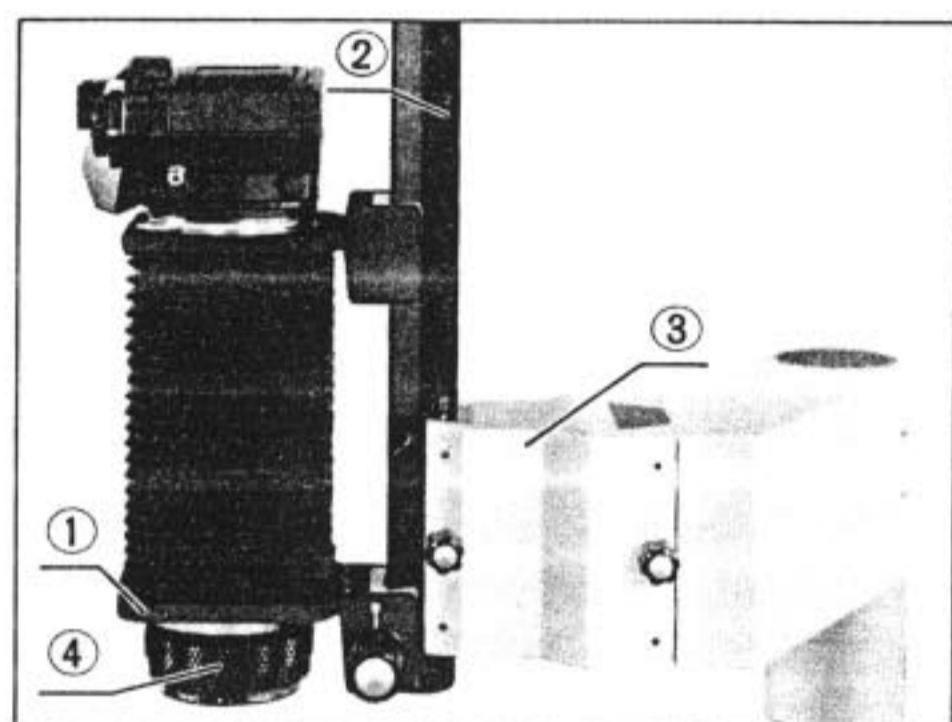

Fig. 14
Securely clamp the photo lens holder (1) to the lower end of the dovetail slideway (2) by means of the clamping knob. (Fig. 14)